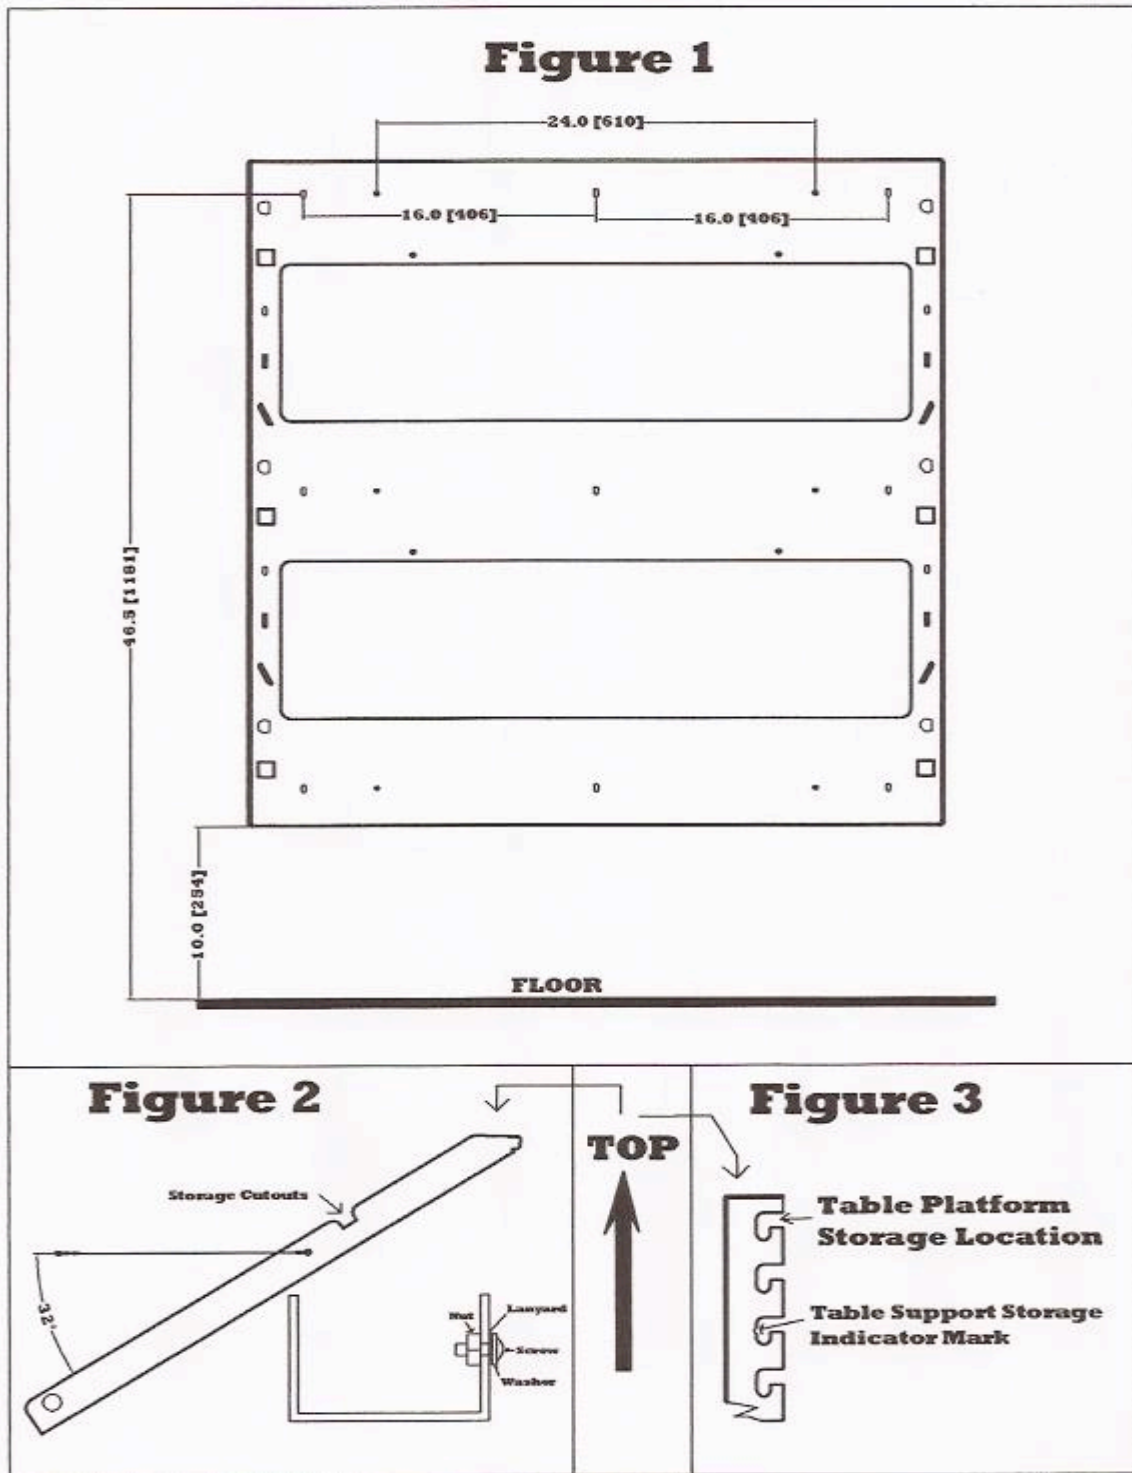

Figure 4
Step 6 – The *Kwick Bench* is now ready to use (see drawing fig 4)